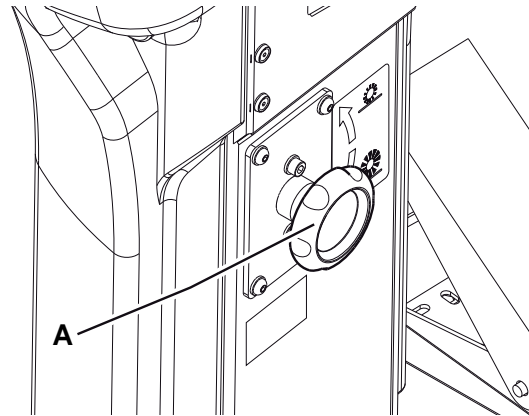

Figure 4
2. Turn the knob (A, Fig. 4) as shown below:
- To decrease the print width, lift the broom with the lever (73) and turn the knob clockwise